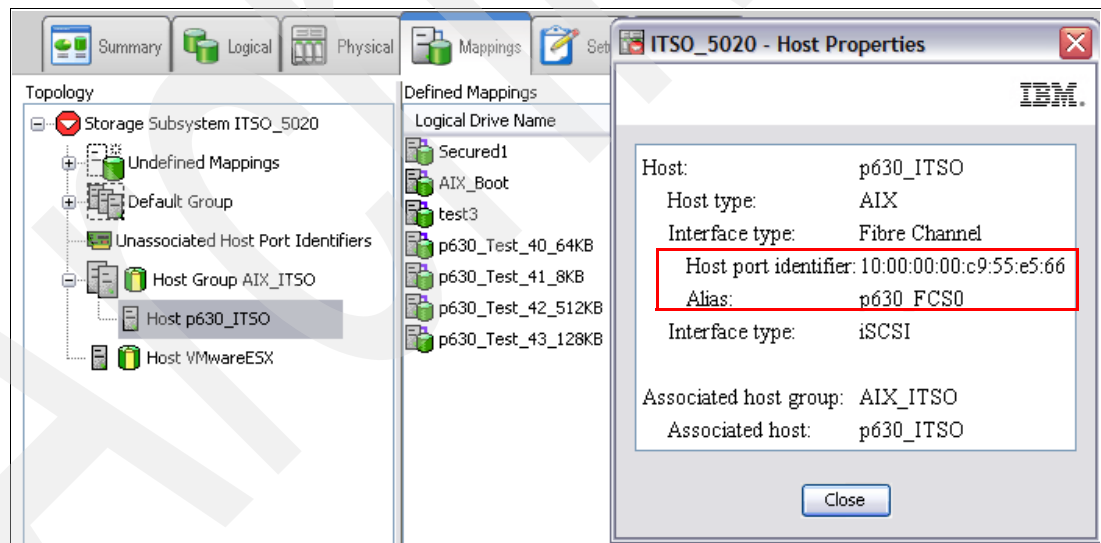
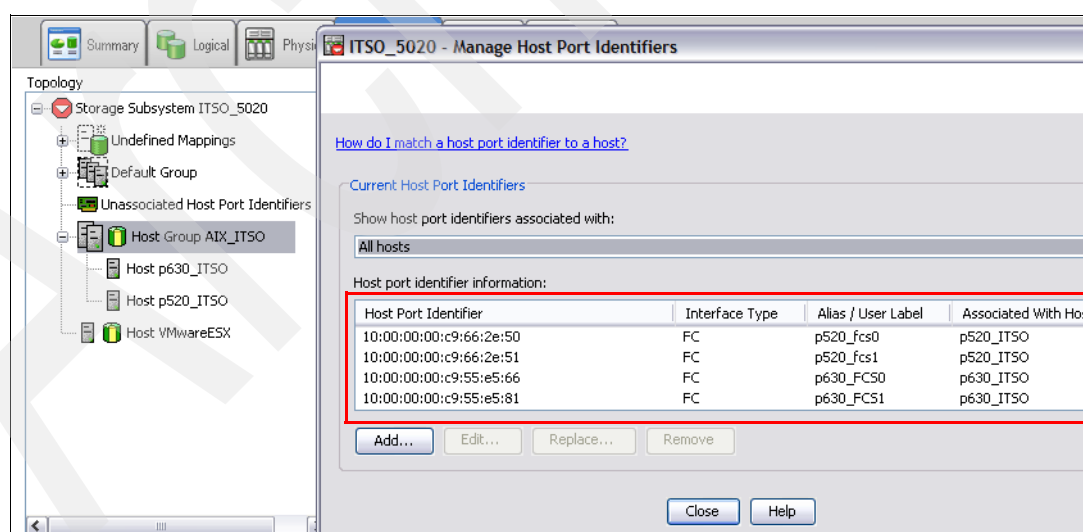
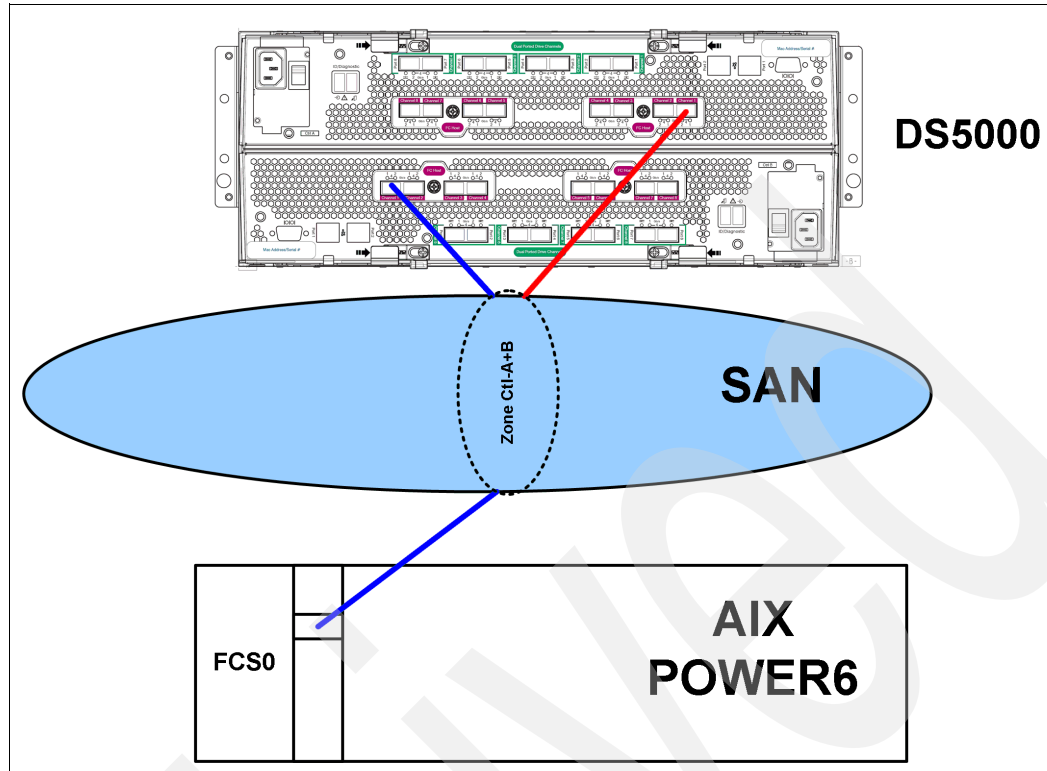

Figure 12-6 Single HBA on AIX host - not considered suitable
Figure 12-8 Two storage partitions - Two HBAs for each storage partition
Figure 12-9 AIX system with one HBA
This configuration has one HBA on one AIX server (see Figure 12-6). This configuration is *supported but not is not considered suitable*, because with only one HBA, it becomes a single point of failure for the server when accessing external storage. The single HBA also requires zoning to both controller A and B ports as shown in Figure 12-9 on page 546.
See Figure 12-8 and Figure 12-9 for this configuration, which is a common configuration used in PowerHA with two cluster nodes. More AIX servers can be added to the Storage Group if required in the PowerHA cluster. This configuration is also typical in a POWERVM environment where dual VIO servers are used.
In this case, we have one HBA on the AIX server included in a single zone for access to controller A and controller B respectively. In Storage Manager, you can define one storage partition with one host HBA. See Figure 12-6 on page 543.
This configuration is *supported, but is not considered suitable*. This zoning is preferred to creating one zone for each controller because it is now a best practice for SANs and does make the fabric zoning simpler. There is only one initiator in the zone in Figure 12-9, hence it complies with general SAN best practices.
- ▶ A configuration with one HBA and only one DS5000 controller is unsupported because the AIX server requires connectivity to both DS5000 controllers to maintain logical drive connectivity in the event of controller failover. See Figure 12-9 on page 546 for the correct configuration.